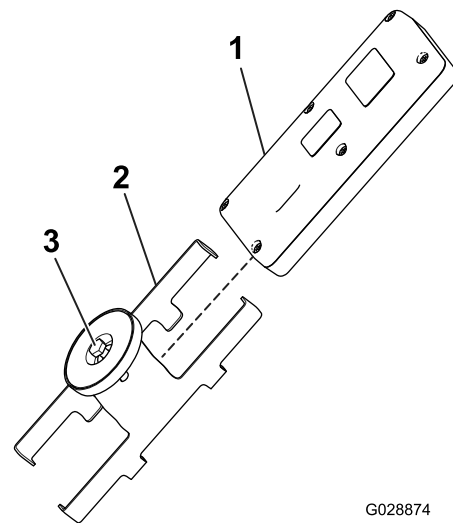

Figure 41
1. Loosen the bolt in the magnet on the magnetic remote bracket (Figure 41).
2. Slide the bracket sides apart and remove the remote (Figure 41).
- Install the handheld remote into the magnetic remote bracket, slide the halves together to secure the handheld remote, and tighten the bolt in the magnet (Figure 41).